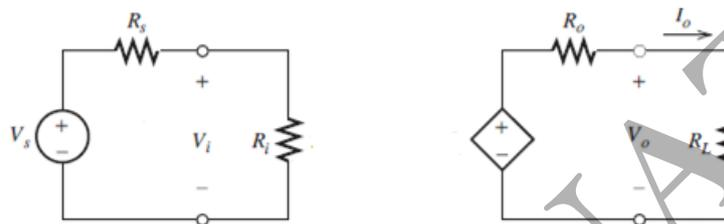

Fig.1(a): a source, amplifier and load circuits
a) Fig. 1(a) shows a source with an internal voltage of  $V_s = 20 \text{ mV rms}$  and an internal resistance of  $R_s = 500 \Omega$  is connected to the input terminals of an amplifier having an open-circuit voltage gain of  $A_{voc} = 100$ , an input resistance of  $R_i = 1 \text{ k}\Omega$ , and an output resistance of  $R_o = 2000 \Omega$ . The load resistance of  $R_L = 500 \Omega$ .